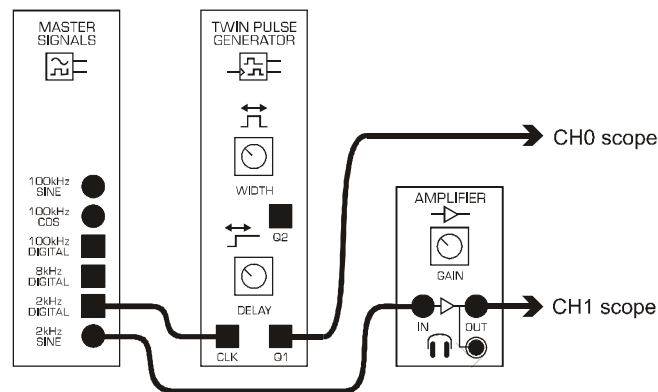

Figure 31: "adjust_AMP_and_TPG.vi" wiring diagram
1. Use patching cords to wire up DATEx blocks according to the wiring diagram in Figure 31.